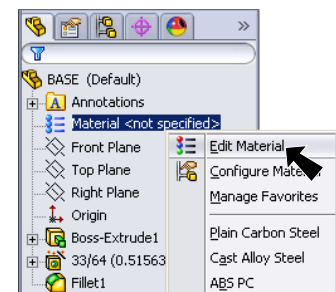

Fig. 17
Step 1. **Right click Material**  in the Feature Manager and click **Edit Material**, **Fig. 17**.